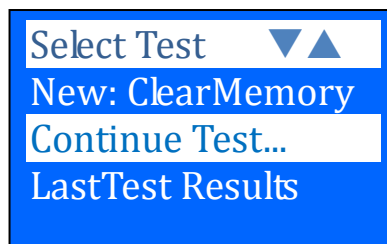

Figure 30
2. It will run through a self-test and when completed it displays the Main Menu as shown: (Fig. 30)
- 13. To exit the program, pressing the  key at any moment will exit and return back to the main menu screen (Fig.30).